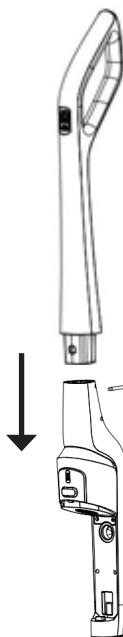

Fig. 1
1. Insert the wand (4) into the body of the appliance (19), then insert the screw into the hole in the back of the wand and do up as indicated in figure 1 above.